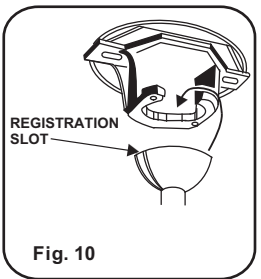

Fig. 10
Step 6. Lift the Motor Assembly and place the Hanger Ball into the Hanger Bracket. Rotate the Motor Assembly as needed until the check groove from the Hanger Ball rests firmly over the registration tab from the Hanger Bracket. Motor Assembly should not rotate if this is done correctly. (Fig. 10)